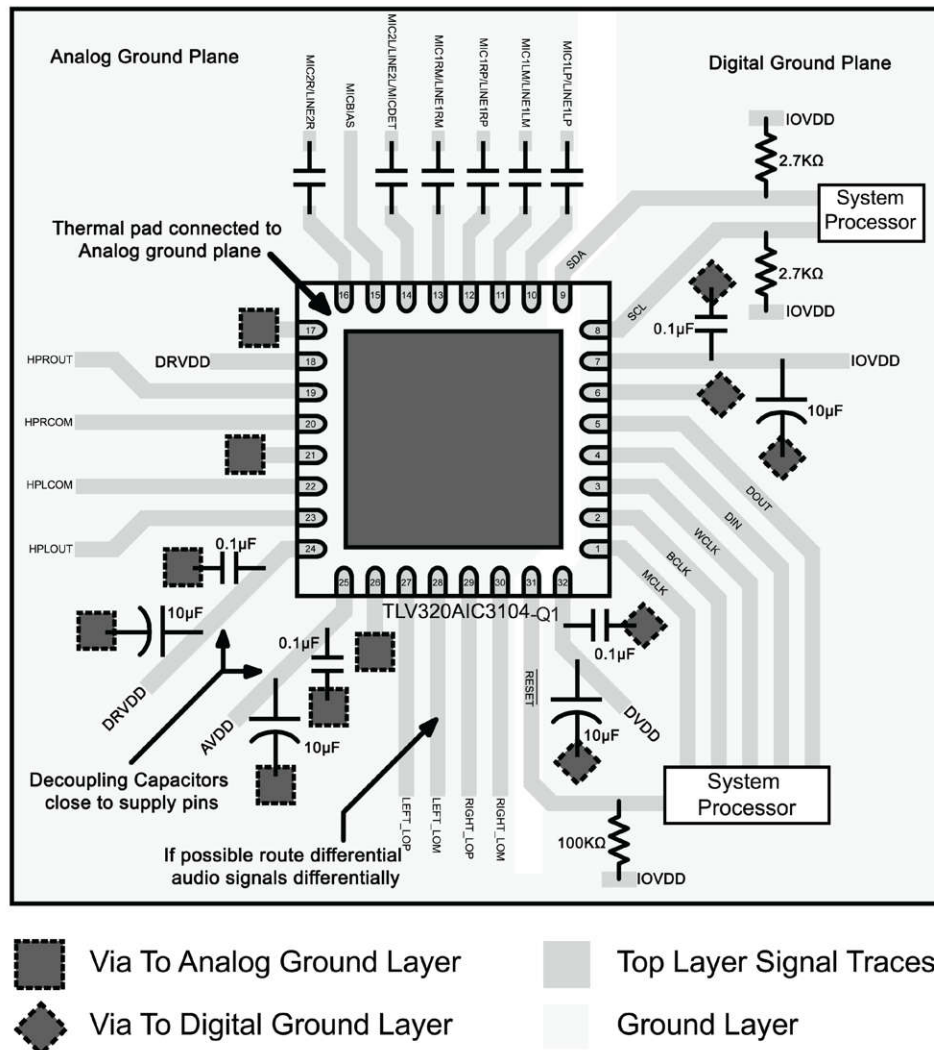

Figure 9-7. Layout Example
- Following the recommended component placement, schematic layout and routing given in Figure 9-7, integrate the device and its supporting components into the system PCB file.